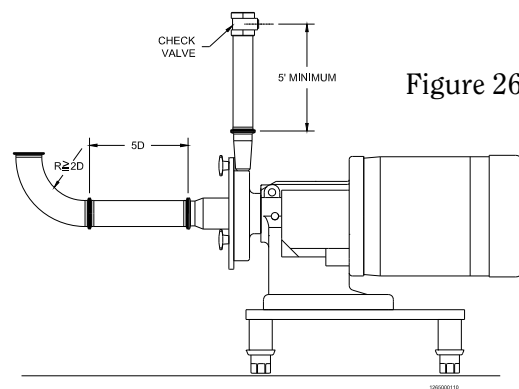

Figure 26
- Avoid elbows in the suction line if possible. When necessary they should be located 5 pipe diameters away from the blender inlet, and have a bend radius greater than 2 pipe diameters (**Figure 26**).
- Check valves in discharge line should be a minimum of 5 ft. away from the blender outlet (**Figure 26**).